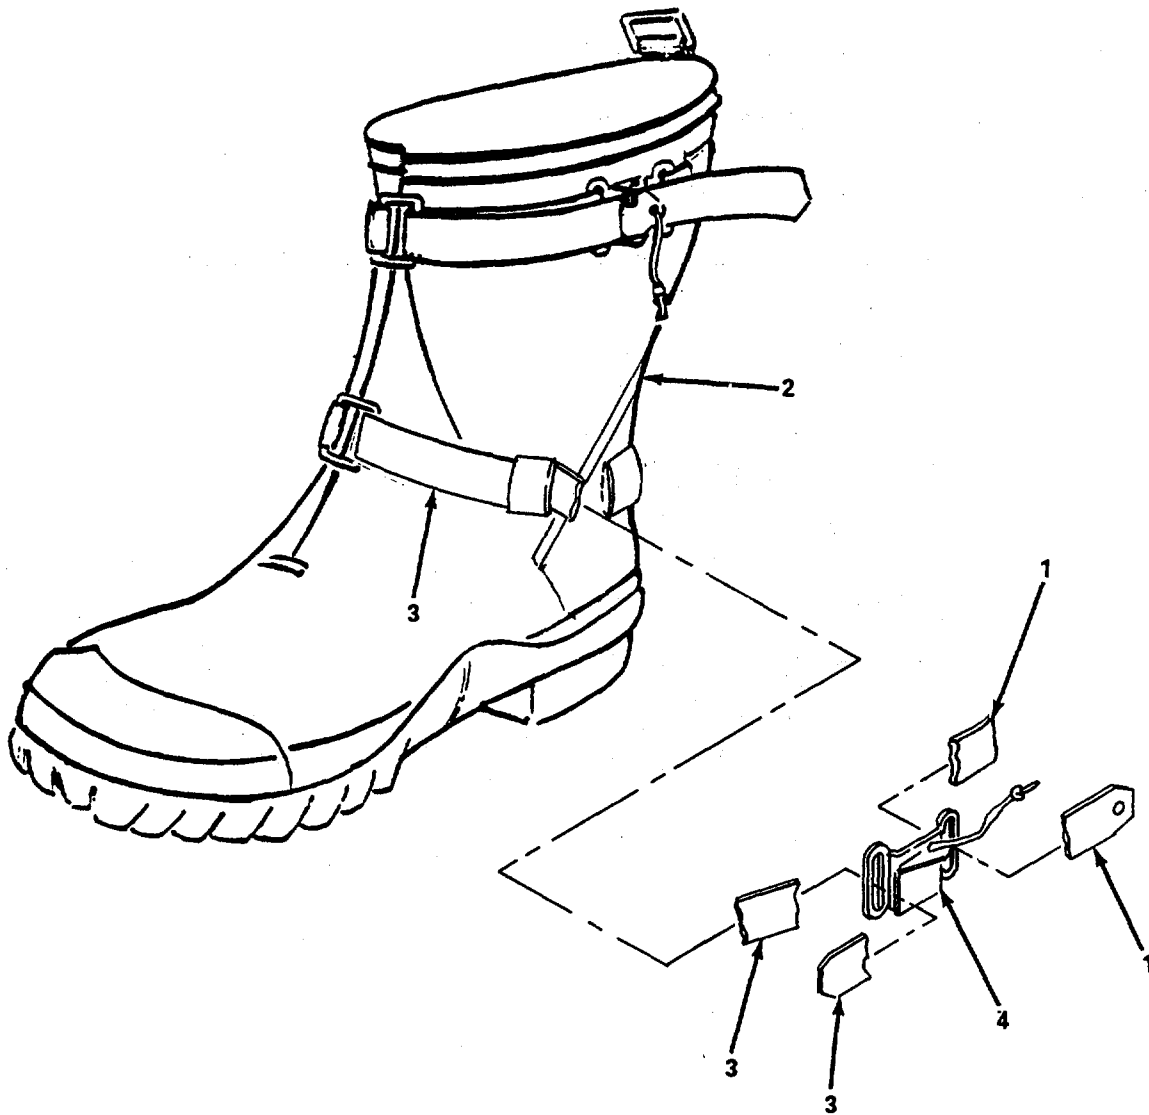

Figure 4-6. Buckle, Repair.
- (3) *Replace buckle.* (figure 4-6)
- (a) Remove loop (1) from boot (2).